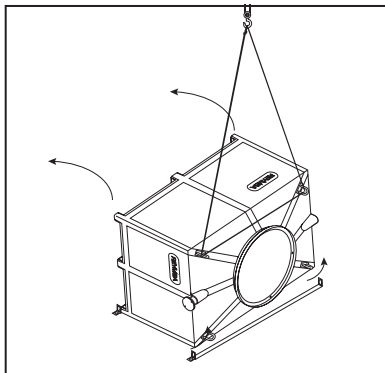

Figure AP-6: Positioning the body section with a crane
G. Secure the body section from the U-bolts and lift it slowly to set it in position for installation (see Figure AP-6). Maintain a minimum of 60° between the strap and the horizontal. Then assemble the Tower using a crane. Secure the sections with stainless steel bolt and nuts supplied by REYMSA.